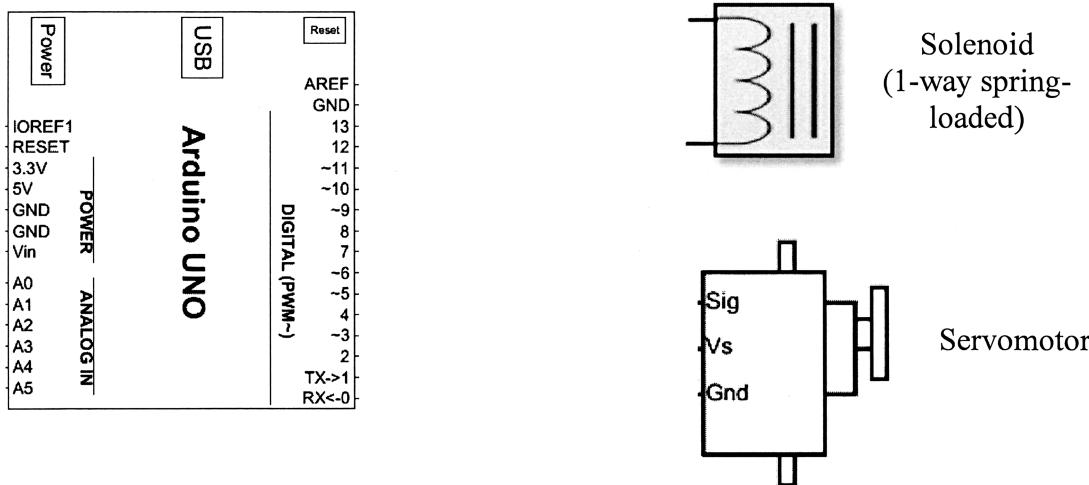

Figure 2 Interfacing Circuits with Actuator
- (b) Sketch an interfacing circuit for each of the following actuators, as shown in Figure 2. You may use any pin of the MCU for interfacing.
Figure 2 appears on page 2.